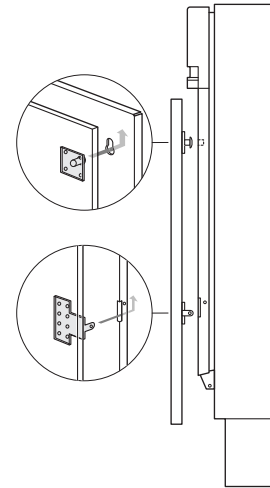

Fig. 10
- Fix the mounting material to the door, with the plastic parts at the top and the metal parts at the bottom (see Fig. 10).